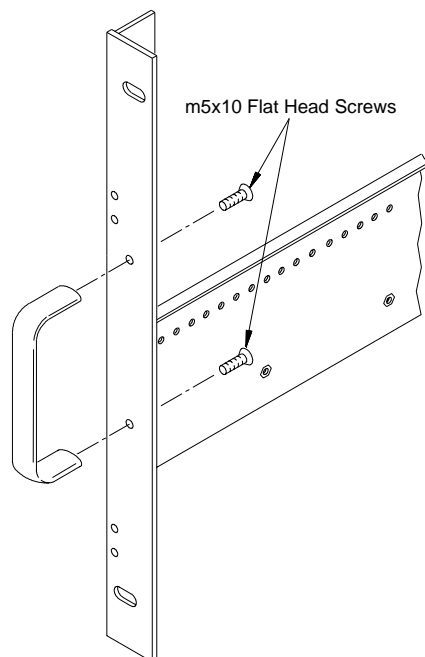

Figure B-5. Attaching Handles to the Adapters (Option 923 - kit p/n E8400-80923).
1. Attach the handles to the standard adapters using the m5x10 flat head screws (Figure B-5). Handles are included only with the HP E840xA Standard adapters (Option 923).